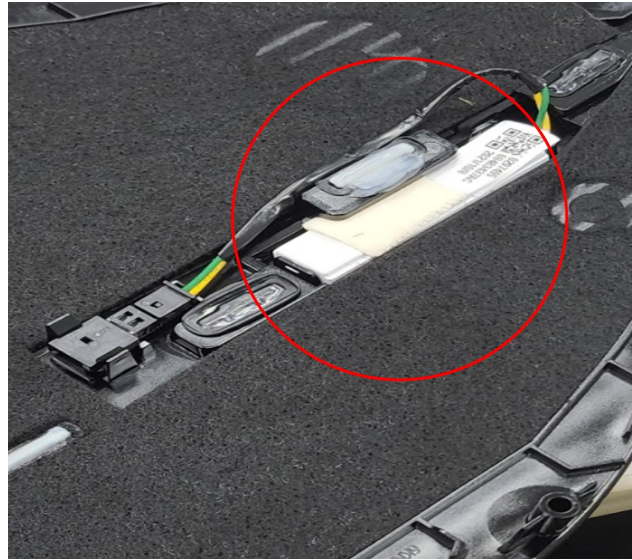

Fig. 2
5. Light should now be secured to the tape and speaker grille (Fig. 2) .